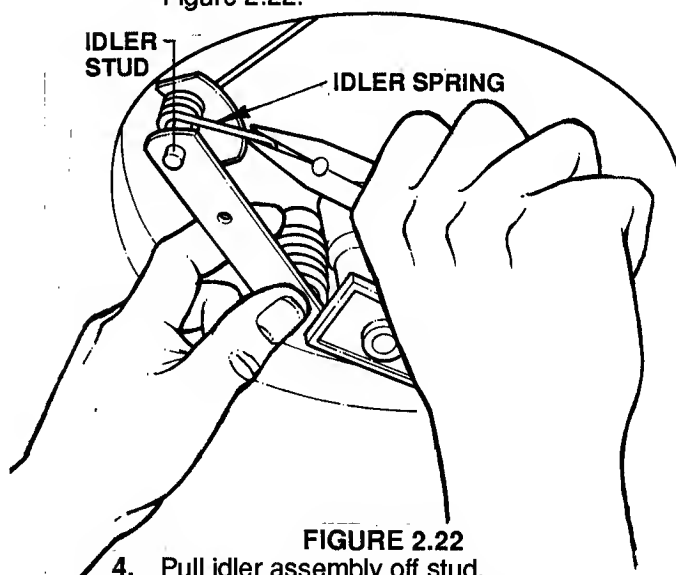

FIGURE 2.22
3. Unhook idler spring from deck. See Figure 2.22.